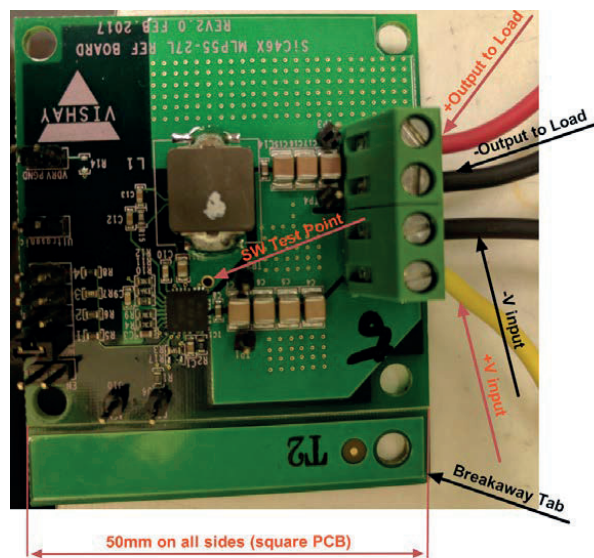

Fig. 1 - PCB Showing Power Terminal Connections
- **V_{IN}, GND (J5, Pin 1 and Pin 2):** (see Fig. 1 below)
- **V_{OUT}, GND (J5, Pin 3 and Pin 4):** (see Fig. 1 below)